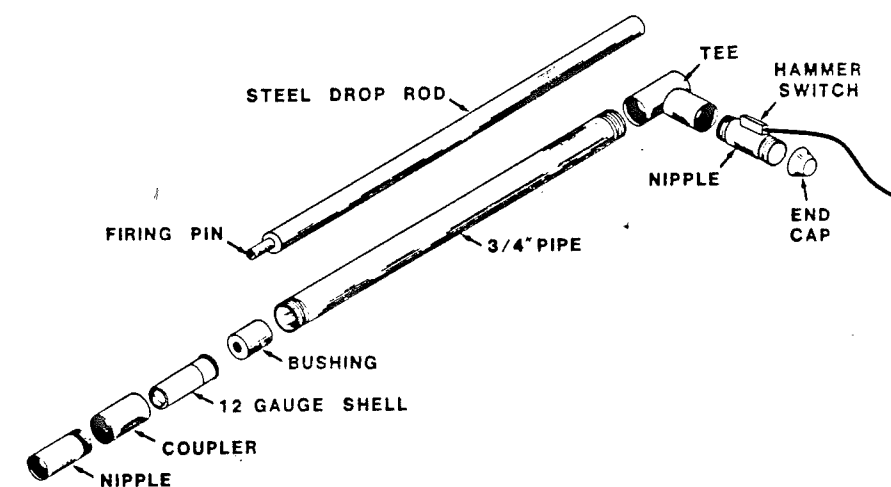

Fig 2 The "Terragun" seismic source.
- 5 "Shot guns" ("Terragun" fig 2, "Betsy")